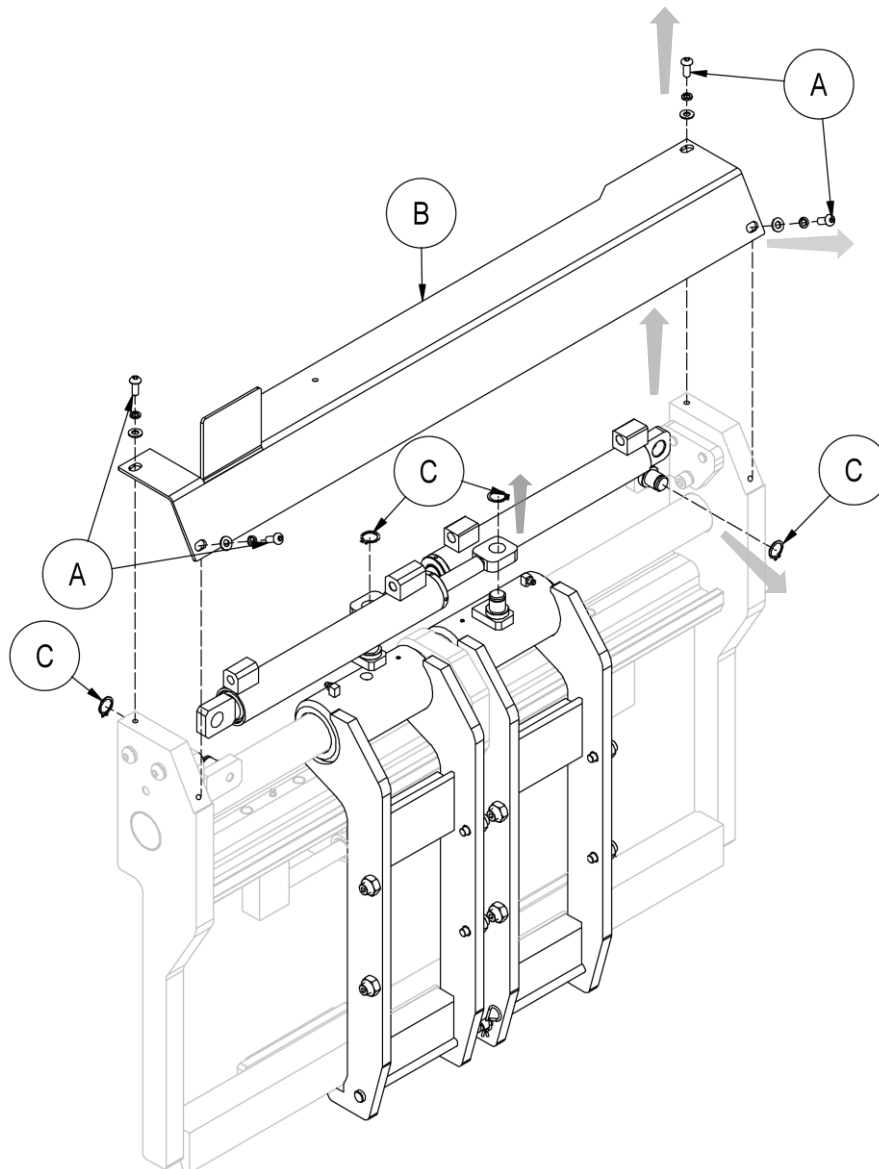

Figure 23
5. Use *Figure 23* as a guide.